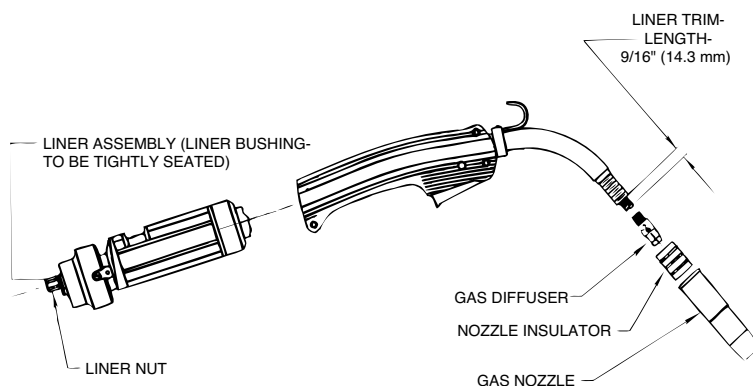

Figure E.1
- e. Be sure the cable is straight and then trim the liner to the length shown in Figure E.1 (a gauge is included on the wrench provided with the connection kit for gauging the cut-off length. Remove any burrs from the end of the liner.